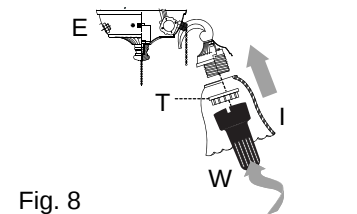

Fig. 8
8. Remove socket rings (T) from sockets. Attach glass shades (I) with these same socket rings (T). If necessary, use the socket ring tool (W) to attach the socket rings (T) as shown. [Fig. 8]